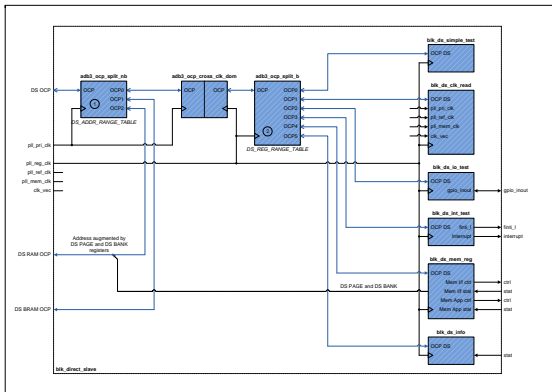

Figure 31 : Uber Direct Slave Block Diagram
A block diagram of the OCP Direct Slave block is shown in Figure 31.
Referring to item 1 in Figure 31, this instance of `adb3_ocp_split_nb` splits the Direct Slave OCP channel into multiple secondary OCP channels, which are then routed to their appropriate blocks.
Referring to item 2 in Figure 31, this instance of `adb3_ocp_split_b` splits the Direct Slave register OCP channel into multiple secondary OCP channels, which are then routed to their appropriate blocks.